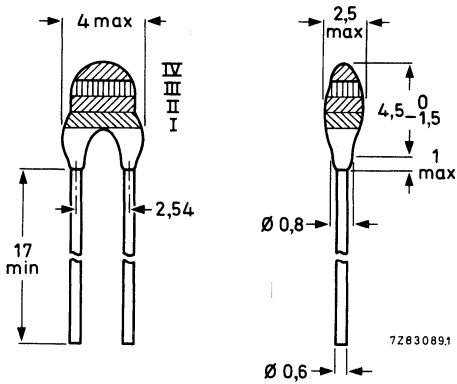

Fig. 1.
* Thermistors with a 50% tolerance have a gold band IV; 10% tolerance is identified by a silver band IV (Fig. 1). If band IV is not used see 2322 640 19... .